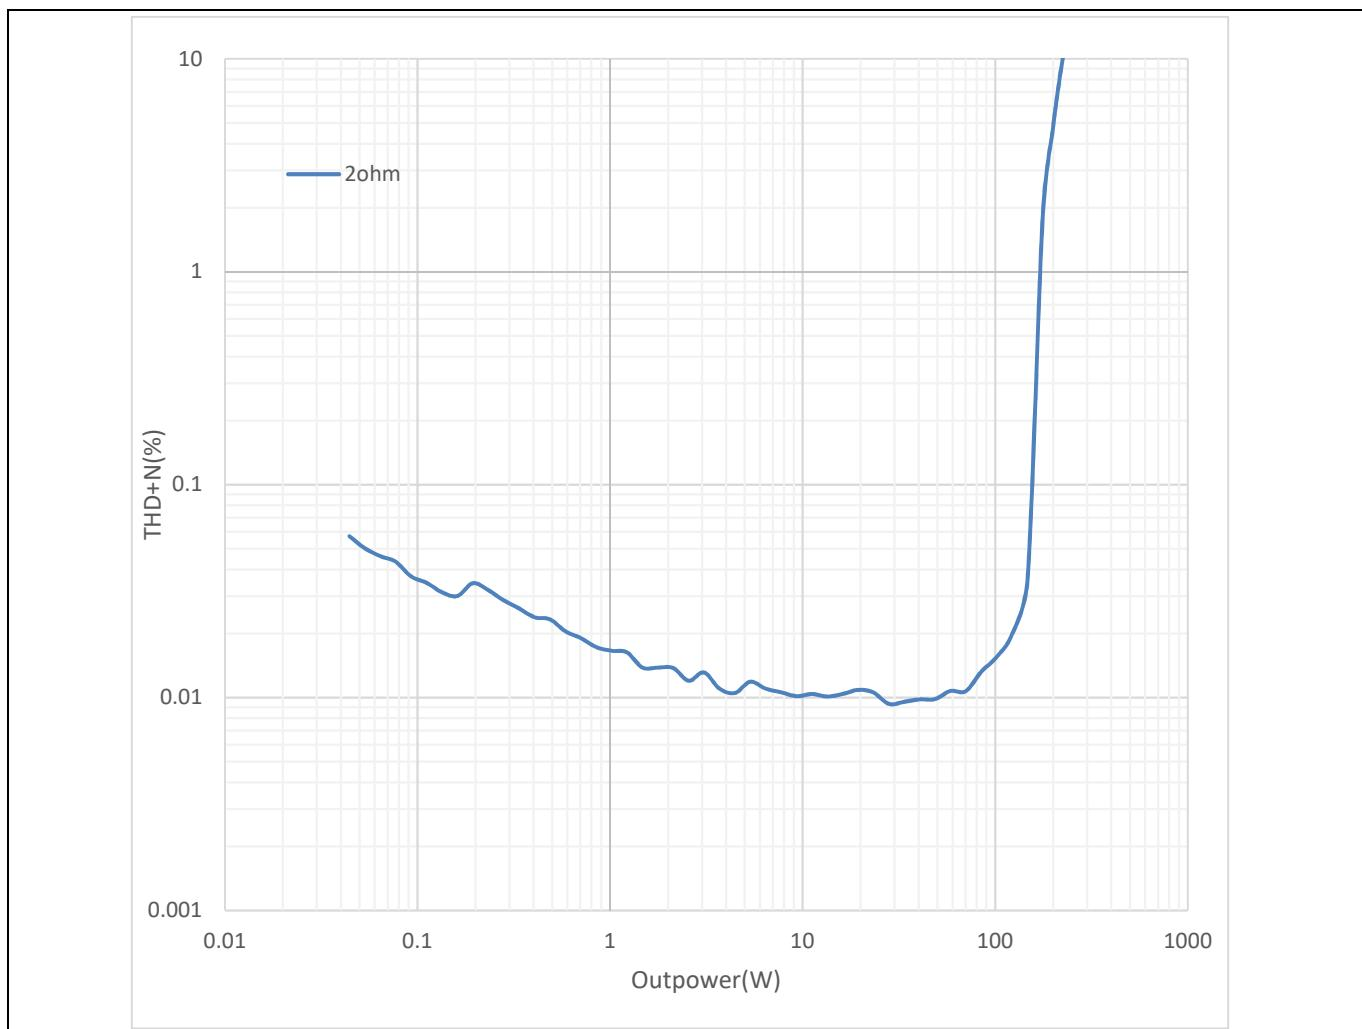

Figure 4 Power vs. THD+N 2 Ω load
8. Run the AP tests as shown in Figures 4 to 11, below.